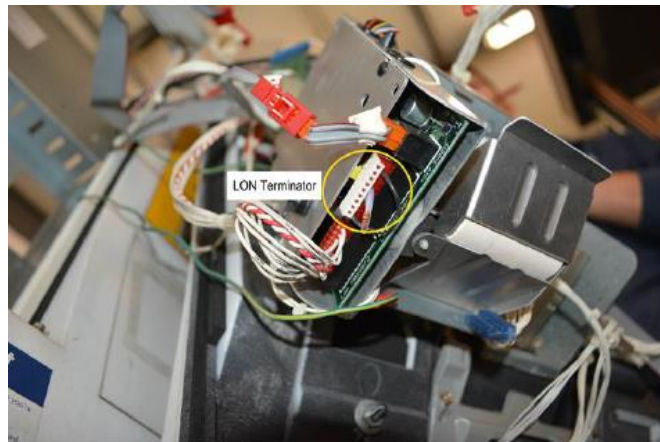

Fig 2.3b – LON terminator from the printer
- a. If uninstalling from a 500 dispenser with a LON cable harness, remove the LON terminator from the Printer (if present) and retain (Fig 2.3b).